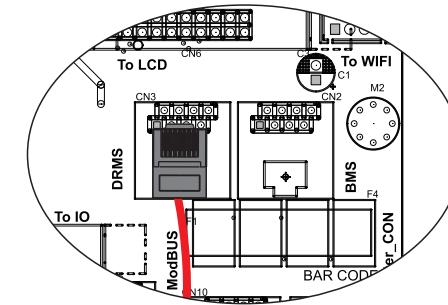

Figure 4.8-4 RJ45 interface
Step 4. Connect RJ45 terminal to the right position onto the inverter.See Figure 4.8-4